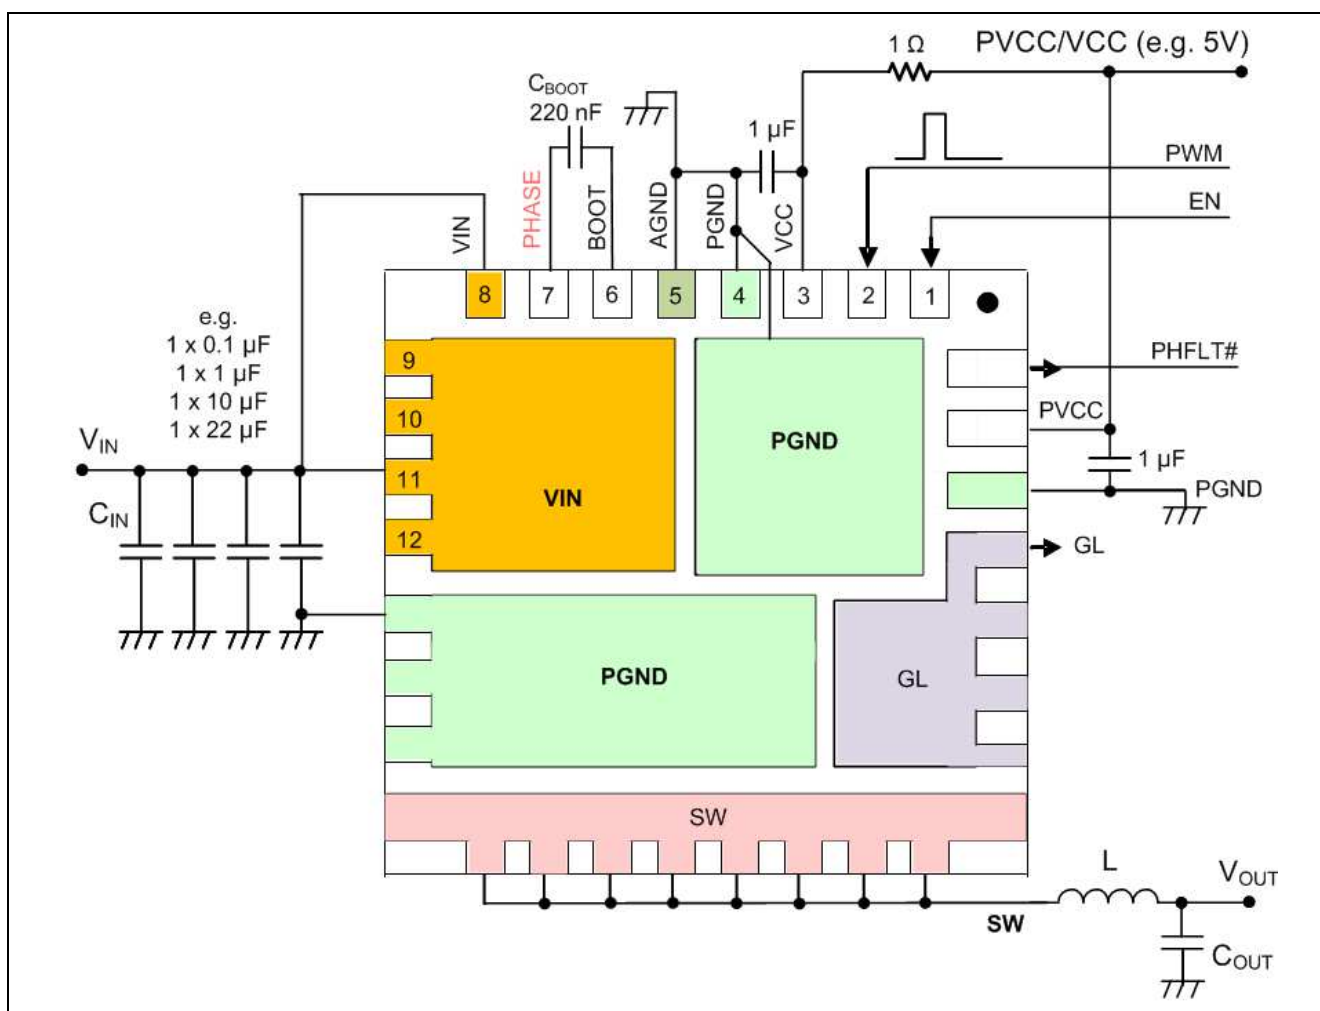

Figure 6 Pin Interconnection Outline (example, transparent top view)
³ In telecom applications the recommended maximum voltage for V_{IN} is 13.2V unless a boot resistor is used (in series with C_{BOOT} in Figure 6) to limit the voltage spike $V_{PHASE-V_{PGND}}$ (AC) to 26V.